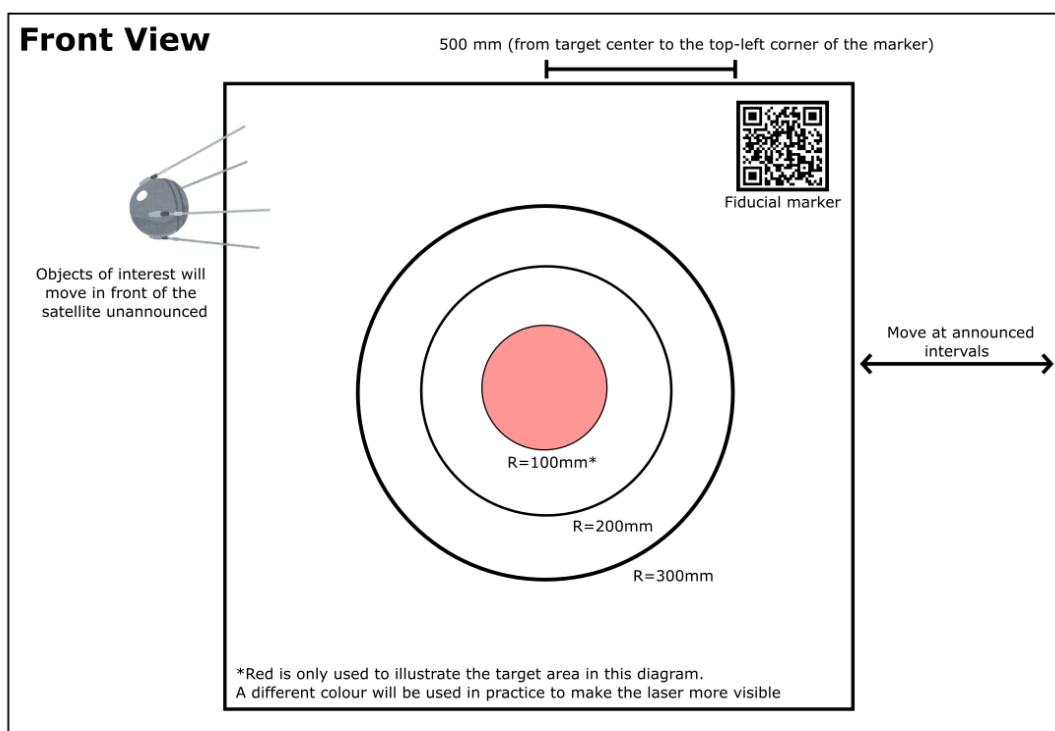

**Figure SOW-3:** View of the target area from the satellite and illustration of events that will happen during the mission
- Once the target has been acquired, teams will need to maintain the payload within the defined target area for as long as possible while maintaining safe operation8, shown in **Figure SOW-3**. UKSEDS volunteers will observe the operation and record the duration for which the laser is successfully pointed at the target.